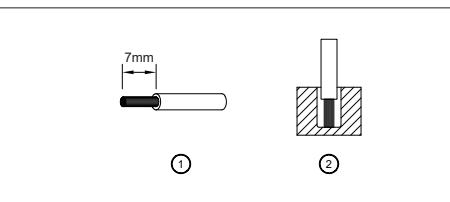

Figure 4
(1)	0.823-8,365	18-8	10,34	9
(2)	0,20-3,3	24-12	6,9	6
To secure reliable and shock proof connections, the stripping length should be 7mm (see Fig. 4 (1)). Please ensure that the wires are fully inserted into the connecting terminals as shown in Fig. 4 (2). All wire strands must be fully inserted into the terminals with the screws securely fastened in order to ensure safety and maximum contact.